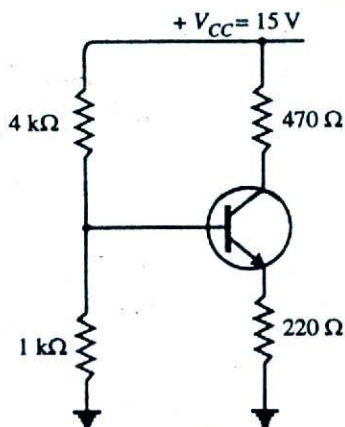

Fig. 11.34
7. In the transistor circuit shown in Fig. 11.34, find the operating point. Assume the transistor to be of silicon. [$I_C = 10.5 \text{ mA}$, $V_{CE} = 7.75 \text{ V}$]